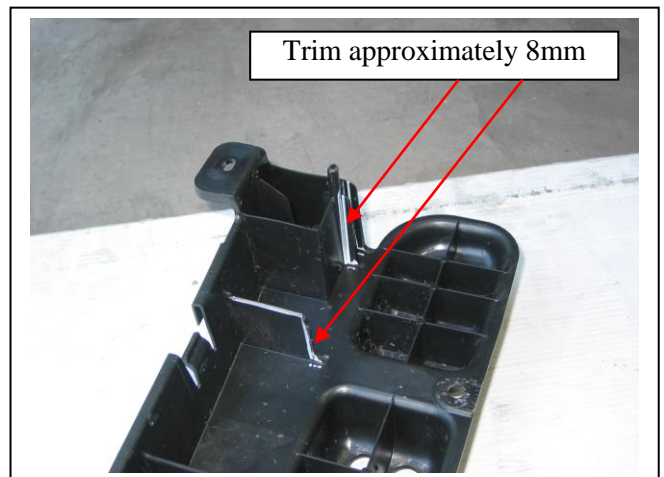

Figure 10 – Passenger side shown.
20. Trim plastic bumper cover support approximately 8mm to fit over steel mounting brackets on cross member as per **figure 10.**